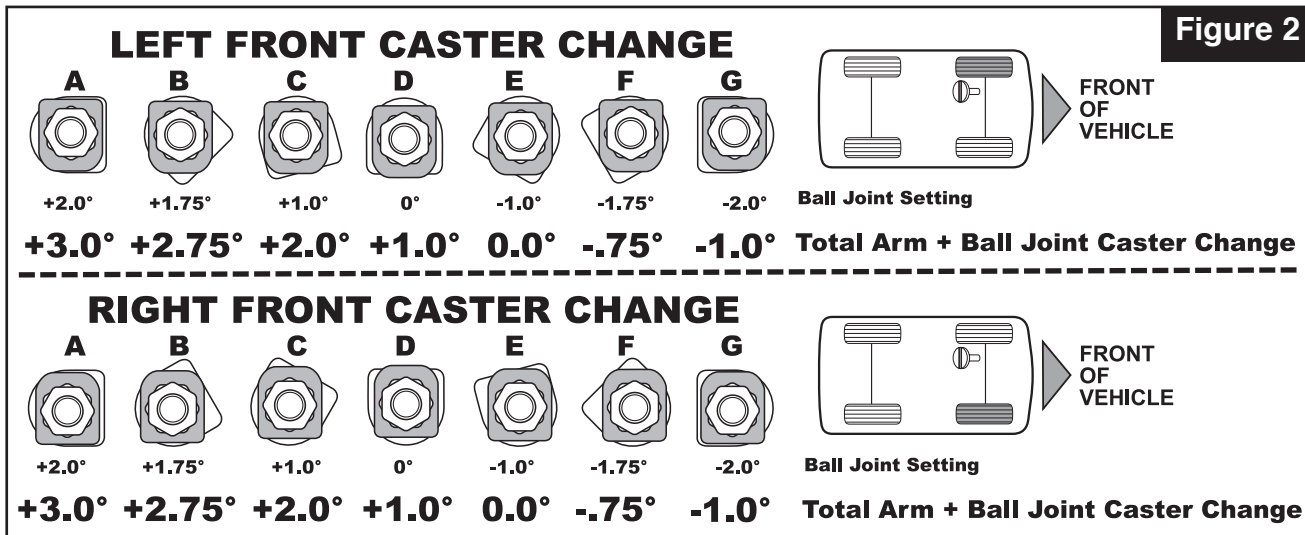

Figure 2
8. Install star plate over hex on ball joint housing per **Figure 2** to achieve desired caster change.